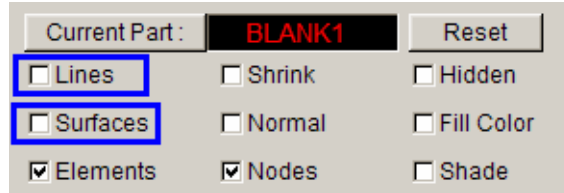

Figure 4.14: Display options
12. Now, all the meshing operations are completed. User may close the lines and surfaces by selecting “surface” and “Lines” from the down-right corner of the screen. This help to observe the resulting meshes. See figure 4.14.